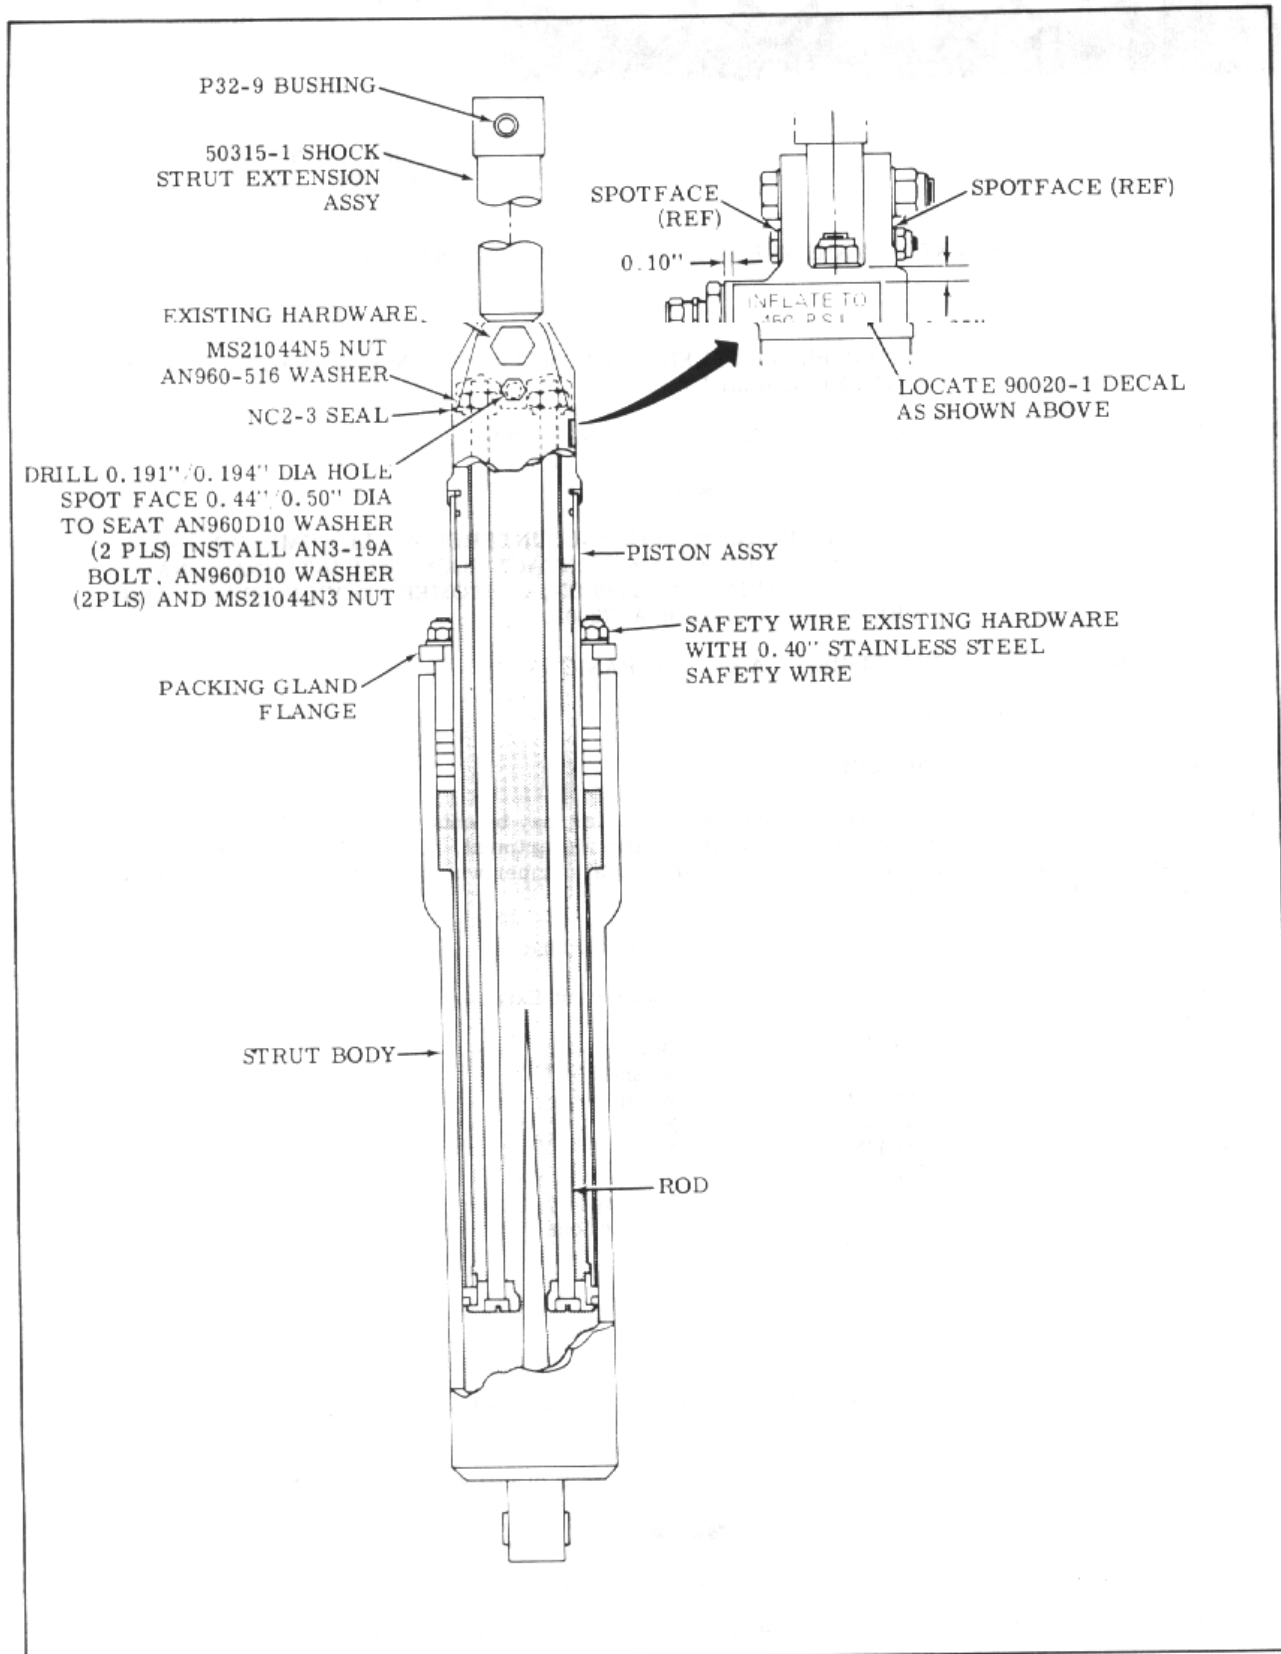

Figure 1.
- a. Remove lockwire and four (4) nuts on the studs that hold the packing gland flange in place (see Figure 1.).
- d. Install NC2-3 seal, AN960-516 washer and MS21044N5 nut (2 places) on existing rods see Figure 1.).
- e. Press fit P32-9 bushing in 50315-1 shock strut extension assembly (see Figure 1.).
- f. Install 50315-1 shock strut extension assembly on existing shock strut assembly using existing hardware (see Figure 1.).
- g. Drill a 0.192 (+0.002, -0.001) inch diameter hole through shock strut cap and extension assembly (see Figure 1.).
- h. Spot face holes drilled in shock strut cap 0.47 ( $\pm$  0.03) inch diameter to seat AN960D10 washer (see Figure 1.).
- i. Install AN3-19A bolt, AN960D10 washer (2 places) and MS21044N3 nut (see Figure 1.).
- j. Reinstall piston assembly in strut body, tighten four (4) nuts just enough to prevent leakage past packing rings, and safety nuts with 0.040 inch diameter stainless steel safety wire.
- 9. Install 90020-1 decal (see Figure 1.).